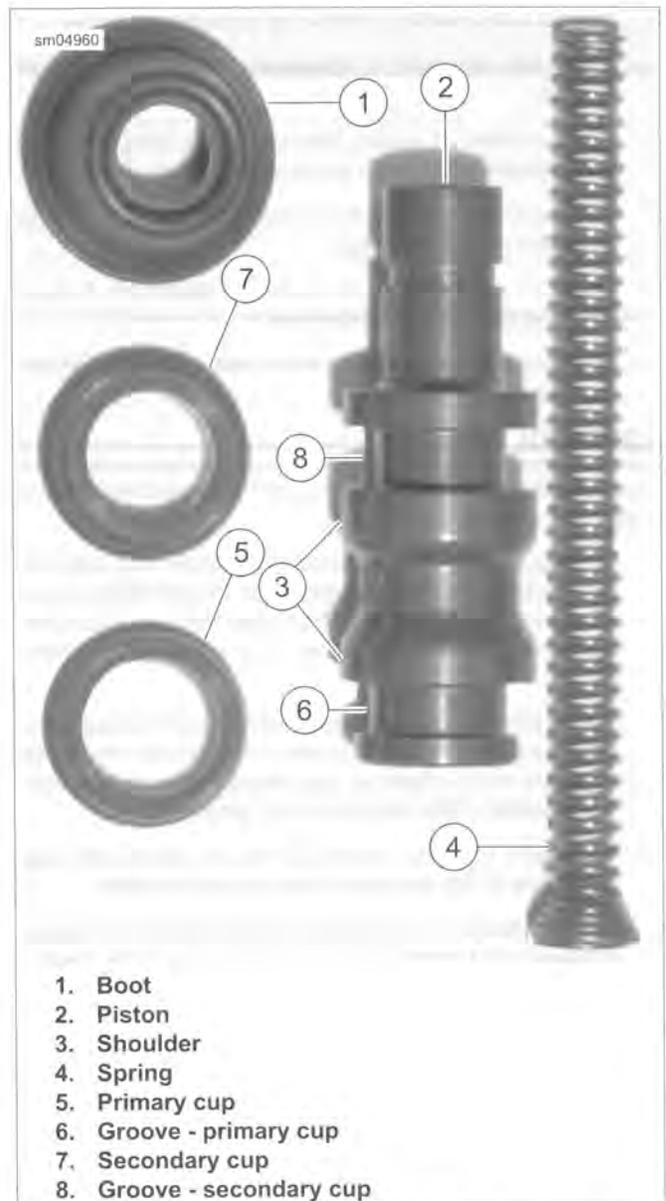
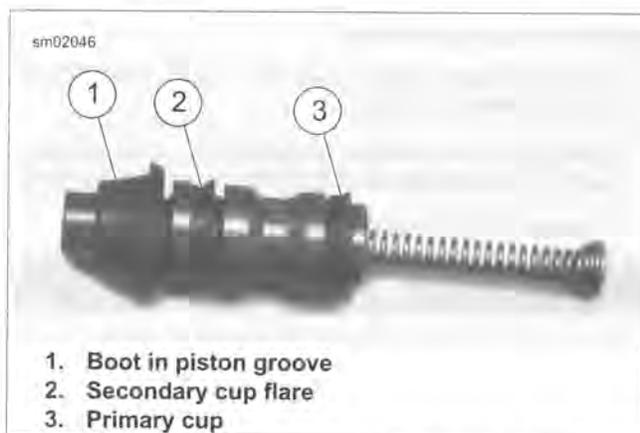

Figure 2-90. Clutch Master Cylinder Components
Figure 2-91. Assembled Cups and Piston
3. See Figure 2-90. Using a toothpick or small screwdriver, gently pry outer edge of piston boot (1) out of piston bore.
4. Remove piston (2) and spring (4).
1. See Figure 2-90. Using lubricant in the service parts kit, lightly lubricate inside of primary cup (5) and fit over lip on spring end of piston (2) so the closed end (small ID) contacts evenly with the shoulder (3) in primary cup groove (6).
2. Lightly lubricate inside of secondary cup (7) (steep taper from center to outside diameter) and fit over the lip on outboard end of piston so that flared end is open toward the shoulder of the secondary cup groove (8).
3. Install boot (1), large sealing ID first, on piston until seal on smaller ID fits snugly into thin groove in piston.
5. See Figure 2-91. With tapered end out, install spring into opening on inboard side of piston assembly.